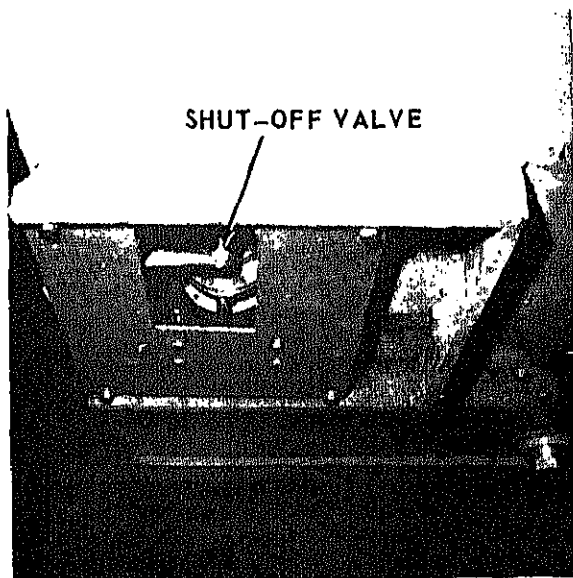

FIGURE 11-4.
- a. Turn the shut-off valve located at the pump under the unit (see figure 11-4).
- b. Disconnect electrical wiring, pressure and suction lines (see figure 11-4).